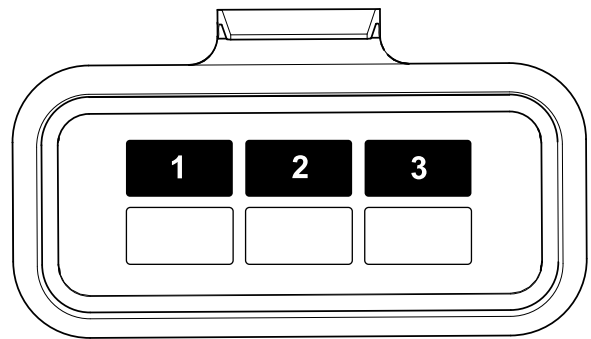

Figure 32
3. Check the fuses in the fuse block (Figure 32).